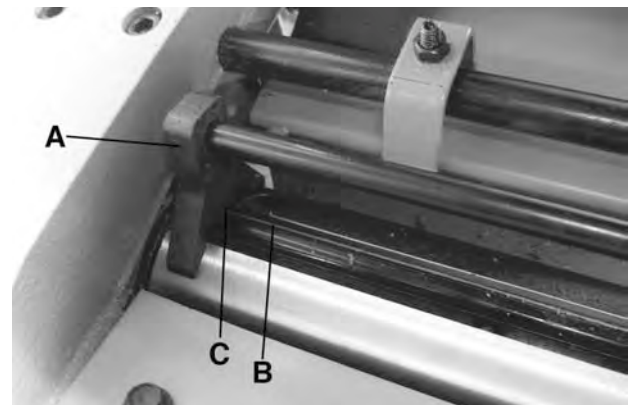
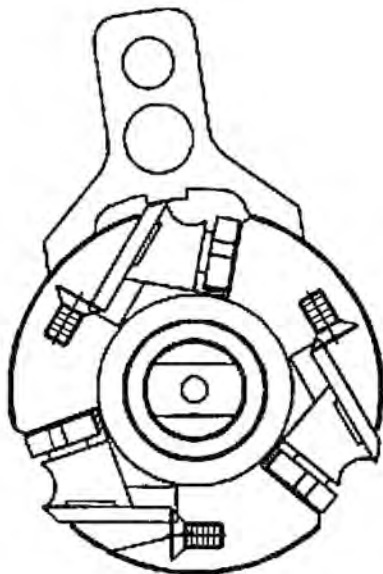
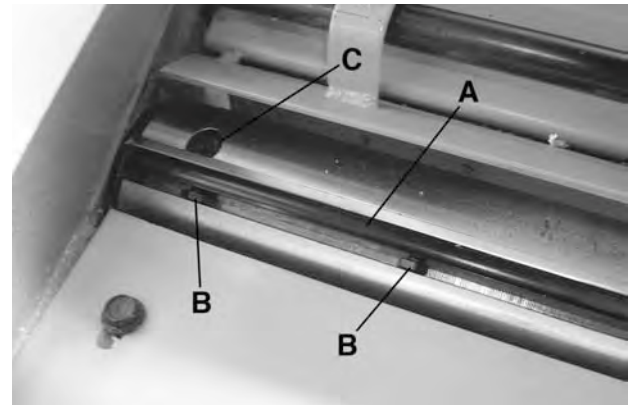

FIGURE 17
FIGURE 18
FIGURE 19
A. Carefully place the knife setting gauge (A) Fig.17 on the cutterhead as shown.
B. When the knives are adjusted correctly, the knife (B) Fig.17 should just contact the bottom of the gauge (C), at each end of the cutterhead. Check the remaining two knives in the same manner. Refer to illustration in Fig.18 for correct positioning of the knife and knife setting gauge.
- C. If any of the knives require an adjustment, slightly loosen the knife locking bar (A) Fig.19 in each of the knife slots by turning the five locking screws (B) clockwise into the locking bar just enough to relieve stress in the cutterhead but not disturb the setting of the knives.
- D. Once you have loosened the five locking screws (B) Fig.19, use the hex key supplied to turn the "jack screw" (C) Fig.19, turn clockwise to lower the knife or counterclockwise to raise the knife on each end of the cutterhead until the cutting edge of knife just touches the bottom of gauge, see Fig.18. Then snug up the knife locking bar by lightly backing out the five locking screws, two of which are shown at (B) Fig.19 against the knife slot. **IMPORTANT: AT THIS TIME, ONLY TIGHTEN THE KNIFE INTO THE SLOT ENOUGH TO HOLD IT IN POSITION.**